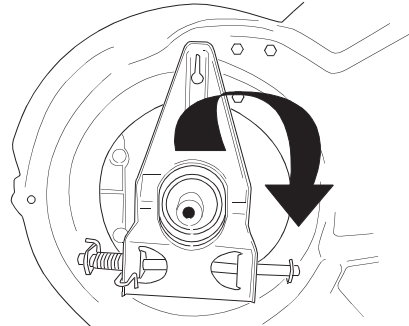

Figure 28
22. Check and make sure the belt is routed inside the pulley halves and the belt guard pin. See Figure 28.